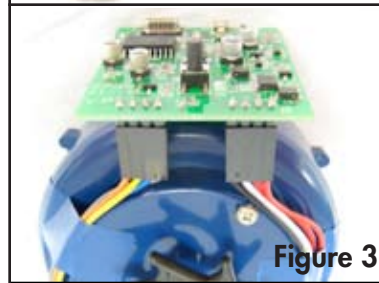

Figure 3
10) (Figure 3) Plug the motor/battery wires and sensor wires back into the board. As viewed in the picture, the motor/battery wires plug into the right side of the board with the red wire to the outside edge, and the sensor wires plug into the left side of the board with the orange wire to the outside edge. The copper contacts of both wire connectors will be facing the top of the board.